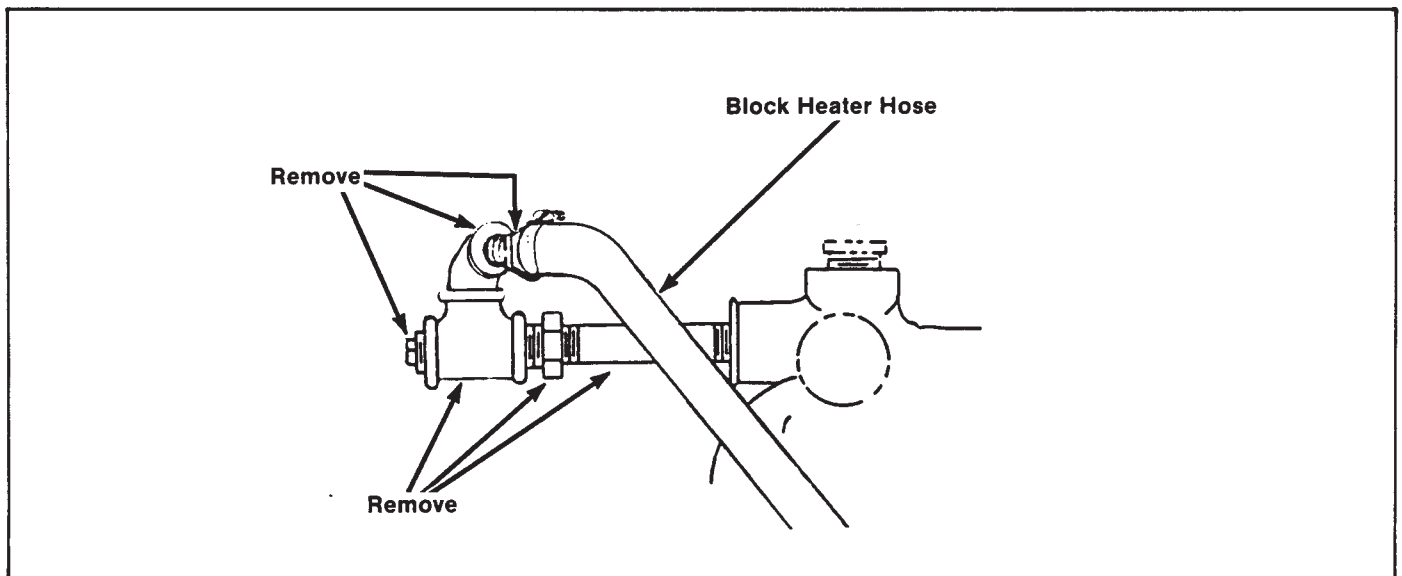

Figure 1.
4. Disconnect block heater hose, and remove parts shown in Figure 1. Use X-75-3 (1/2 NPT) pipe plug, and pipe thread sealer to close hole.